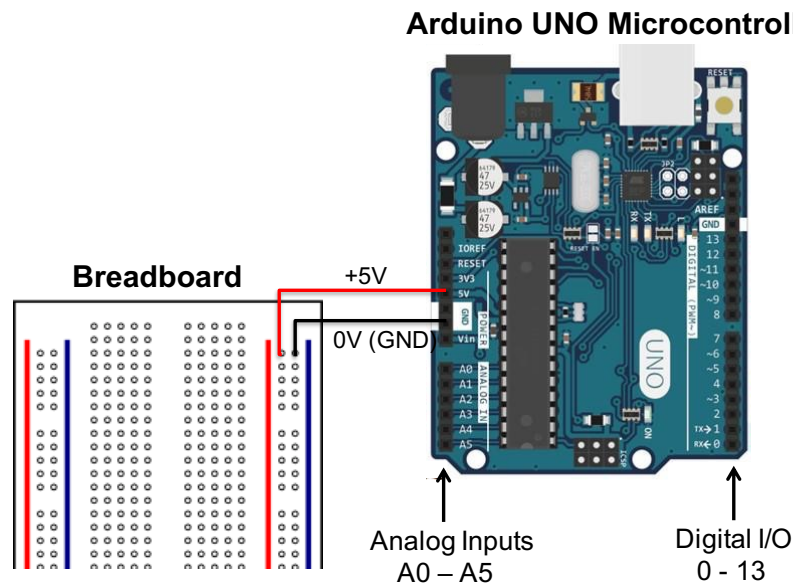

Figure 1 – The Arduino UNO Microcontroller works in tandem with breadboard.
The Arduino UNO is an inexpensive microcontroller commonly used by hobbyists and engineering students. Shown in Figure 1, the UNO is connected to a breadboard where various sensors and circuits can be implemented (i.e. a thermistor in a voltage divider circuit). Here are a few of the more salient features of the UNO.
3. Use red and black jumper wires to connect the +5V and GND pins on the Arduino to the vertical bus lines on the breadboard, as shown in Fig. 1. Use the orange handheld DMM to verify that it is providing +5V of power.